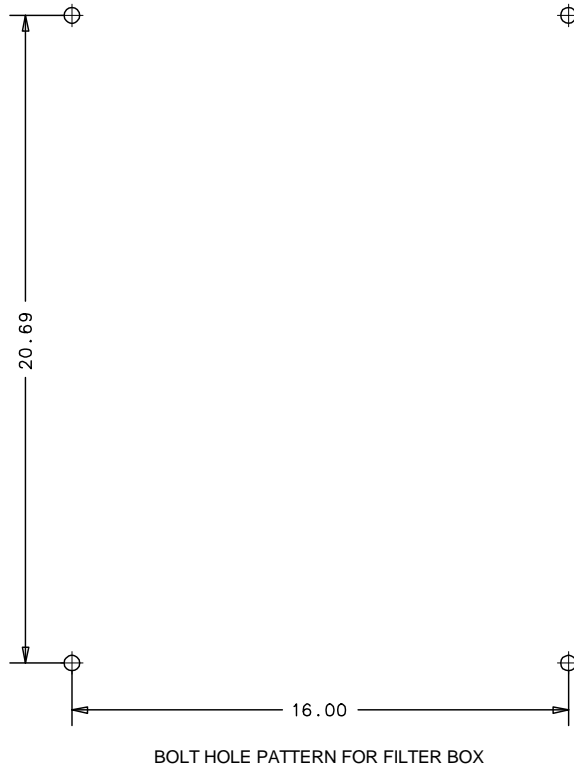

FIG. 1
2. Mark the hole pattern on a level wall, and drill all the way through the wall (See Fig. 1 and refer to included template).